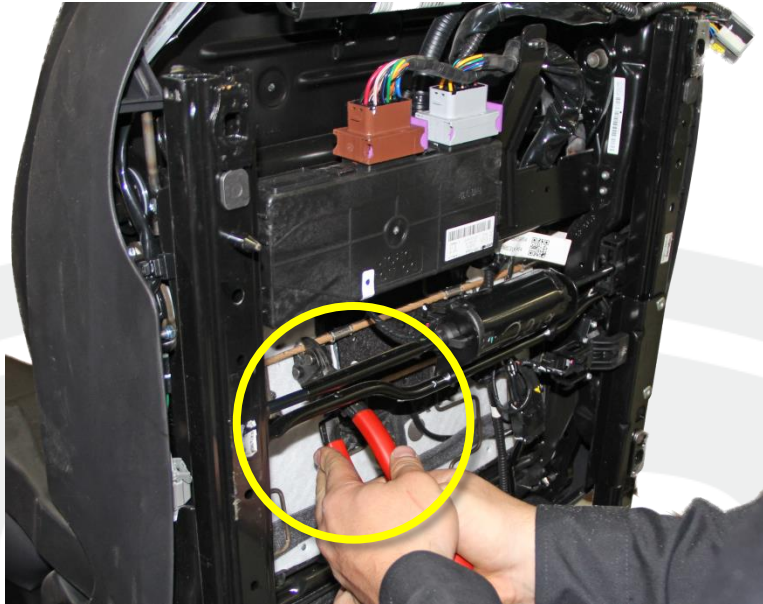

Figure 4
5. Using an appropriate tool, cut the 2 remaining cross wires roughly 15 mm from the outside of the 4 remaining metal crimps (Figures 4 and 5). Discard the cross wire portions that were removed.